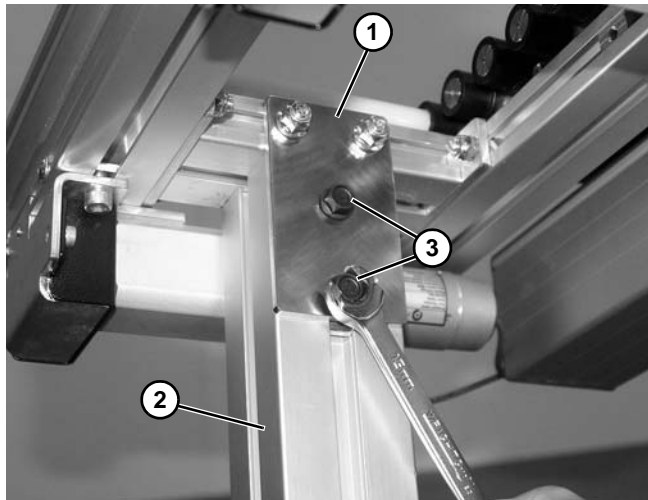

Figure 3
1. Install support bracket (**Figure 3, item 1**) onto leg (**Figure 3, item 2**) with two bolts (**Figure 3, item 3**) and slide-in nuts.